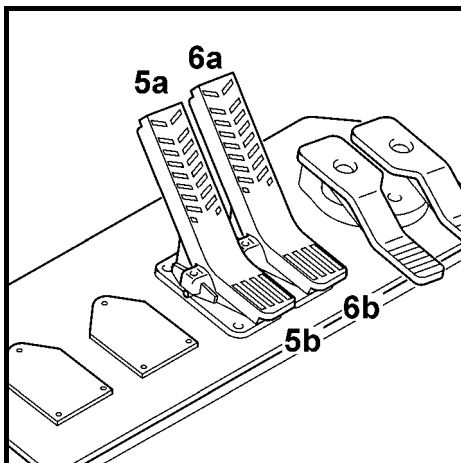

Fig. 19
Push both foot pedals equally forward with your toes (Fig. 19, pos. 5a and 6a).
Push both foot pedals equally downward with your heels (Fig. 19, pos. 5b and 6b).
Releasing the foot pedals (Fig. 19, pos. 5 and 6) will automatically return them to neutral position, and a maximum hydraulic braking is achieved.